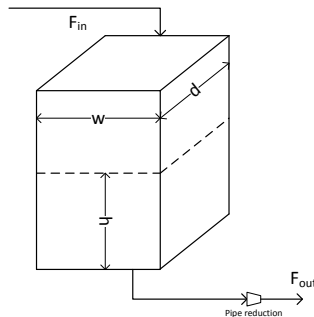

Figure 5: Tank of exercise 3
(B) We would like to know the water level h in a tank, shown in figure 5 with the cross sectional area $A = w * d = 2m^2$, where the outgoing flow F_{out} is restricted by a reduction in pipe diameter and can be calculated as $F_{out} = C\sqrt{h}$, where C is a constant and F_{out} is the output flow and the input is the flow into the tank F_{in} .